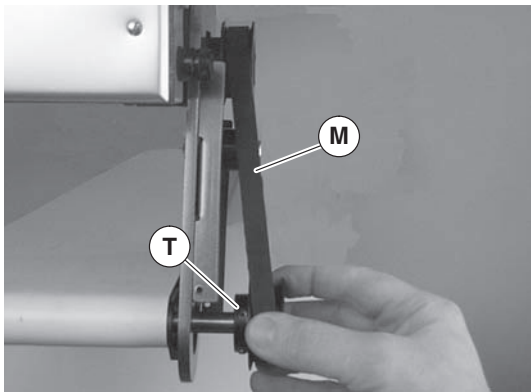

Figure 20
5. Remove timing belt (Figure 20, item M).
If timing belt does not slide over pulley flange, loosen driven pulley set screws (Figure 20, item T) and remove pulley with belt (M). For re-installation, see steps 6 through 9 on page 9.